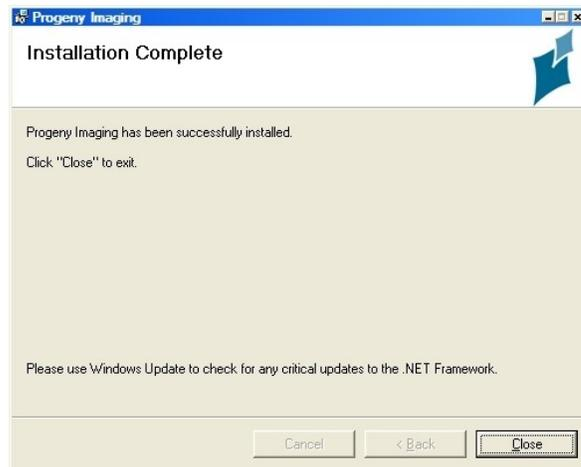

Figure 68
10. Click Close (see Figure 68 on page 42).